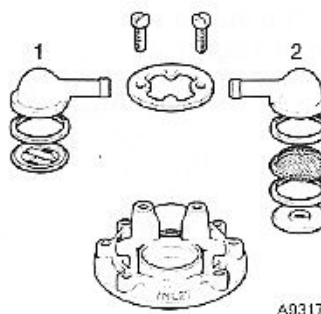

Fig 8. The valve assembly, type AUF200/AZX1200 pump.
- 13 In this range of pumps, the inlet and outlet valves are identical assemblies and are held in position in the one-piece body casting by a steel spring clamp plate secured by two 2 BA screws. This plate also secures the inlet and outlet nozzles, including the filter, all of which are arranged to be accessible from the outside of the pump (see Fig. 8). The inlet recess is deeper than the outlet to allow for the filter and extra washer.
- 14 Referring to Fig. 8, place the outlet valve assembly (tongue side uppermost) in the recess marked 'outlet', place a joint washer on top of the valve assembly, and complete this part of assembly by adding the outlet nozzle.